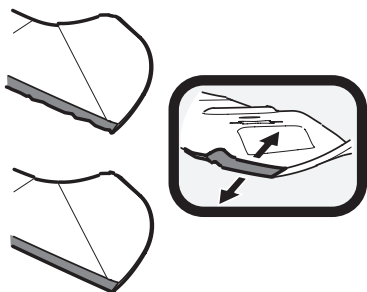

Figure 51
1. To properly sharpen the cutting blades, remove equal amounts of metal from both ends of the blades along the cutting edges, parallel to the trailing edge, at a 25° to 30° angle. Always grind each cutting blade edge equally to maintain proper blade balance. See Figure 51.